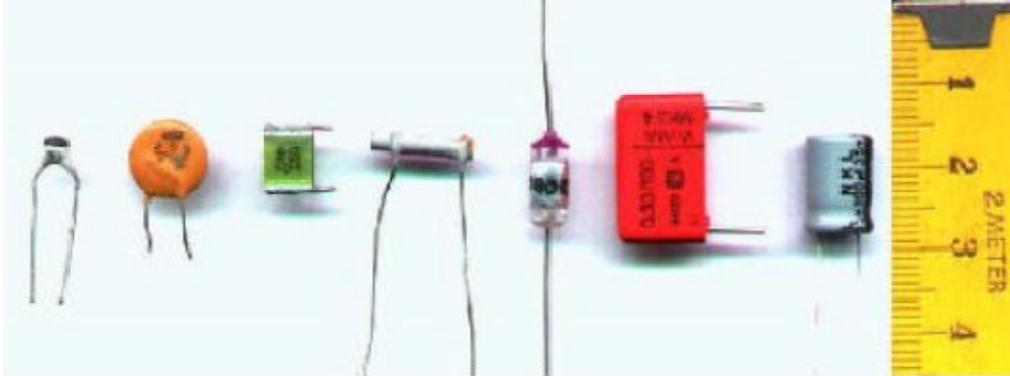

Figure 2 Different capacitor models
The ability of a body to hold charge is called its capacitance. The capacitance (C) of a capacitor is the measure of charge (Q) stored on each plate for a given potential difference or voltage (V) that appears across the plates. The SI unit for capacitance is Farad (F). Figure 2 shows some common capacitor models.